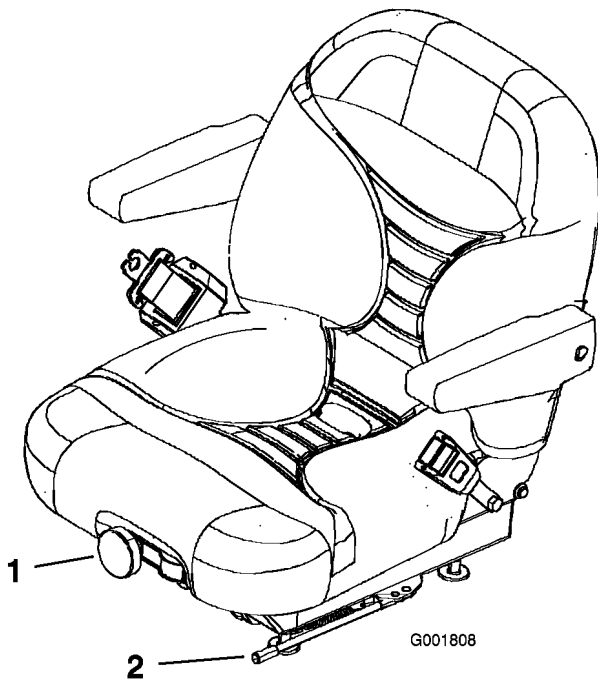

Figure 27
1. To adjust, move the lever sideways to unlock seat (Figure 27).
To adjust it, turn the knob in front either direction to provide the best comfort (Figure 27).